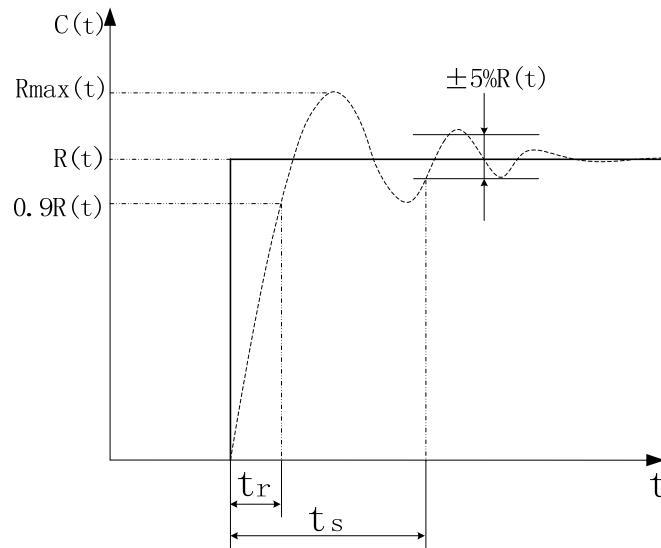

Figure 1-7 Servo dynamic response curve
**Characteristics of servo dynamic response:** the response speed, dynamic control error and steady-state control error. Figure 1-7 is the response characteristic diagram of the given step signal from the servo signal (The solid line indicates given signal and dotted line the output signal from the servo system in the following text.):